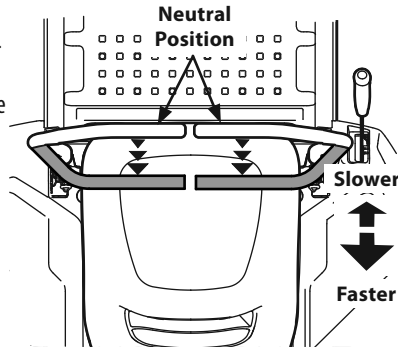

Figure 22
1. Slowly and evenly move both lapbar drive control levers rearward. The tractor will start to move in the reverse direction. See Figure 22.